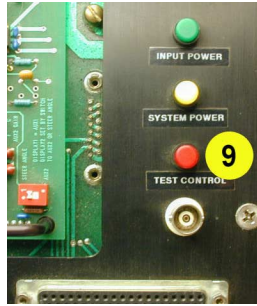

Figure 2: Test Control Enable Button on Electronics box (9)
- The Test Control Enable button must be ON (“9” in Figure 2)
- The Test Control Enable button ("9" in Figure 2) must be ON (lit).